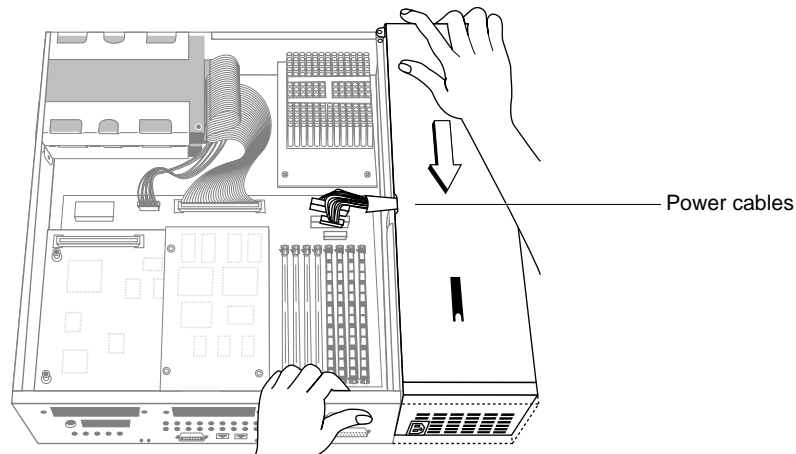

Figure 8-39 Installing the Power Supply
- Grasp the replacement power supply with your right hand and place your left hand on the front of the chassis as shown in Figure 8-39.